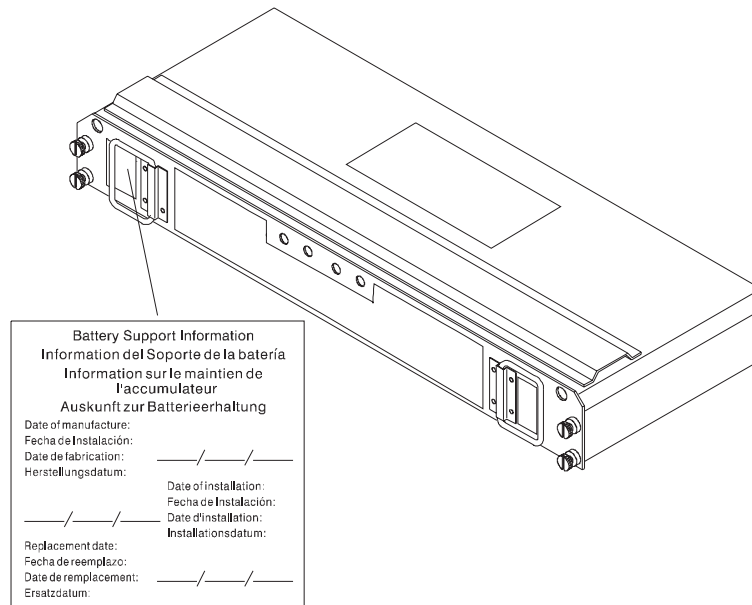

Figure 36. Recording the battery support information
- The service label on the battery provides a blank line for recording the date on which the battery was last serviced (see Figure 36 on page 42). Check this label to determine when to replace the battery. For information about using the software to track battery age, refer to the IBM FAST Storage Manager documentation and online help.
6. Find the “Battery Support Information” label on the front of the new battery CRU, as shown in Figure 36.